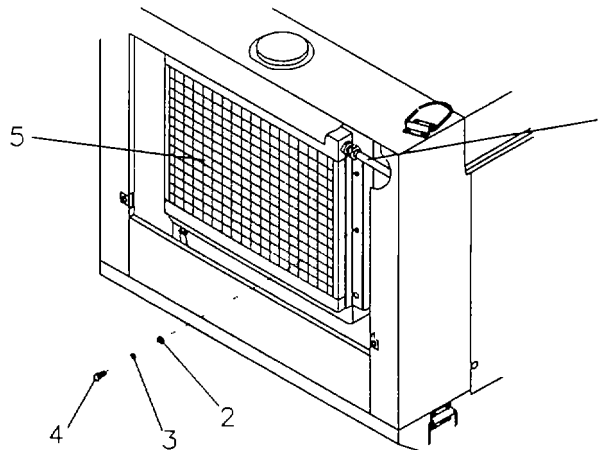

Figure 5-3. Oil Cooler.
a. Removal. Refer to figure 5-3.
- 1) Disconnect and plug the two hydraulic lines (1) from the oil cooler (5).
- 2) Remove the screws (4), lockwashers (3) and flatwashers (2) on each side of the oil cooler and remove oil cooler from cabinet.
b. Installation. Refer to figure 5-3.
- 1) Install oil cooler (5) to radiator with the screws (4), lockwashers (3) and flatwashers (2). Hand tighten screws at this time.
- 2) Connect hydraulic lines (1) to oil cooler (5).
- 3) Tighten screws (4).